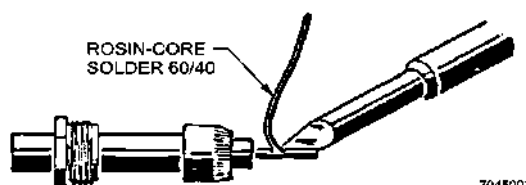

Figure 12-10 Tinning Centre Conductor
- f. For connectors using solder pins or sockets, tin centre conductor with soldering iron as shown in Figure 12-10.